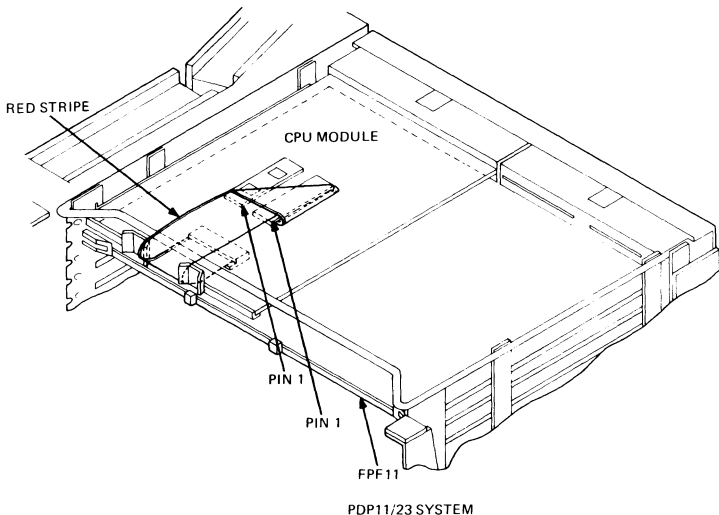

Figure 11-2 FPF11 Cable Layout in LSI-11/23 System
6. Fold the ribbon cable as shown in Figure 11-2.
7. Insert the 40-pin DIP plug of the ribbon cable into the floating point socket on the CPU. Note the position of pin 1 in Figure 11-2.